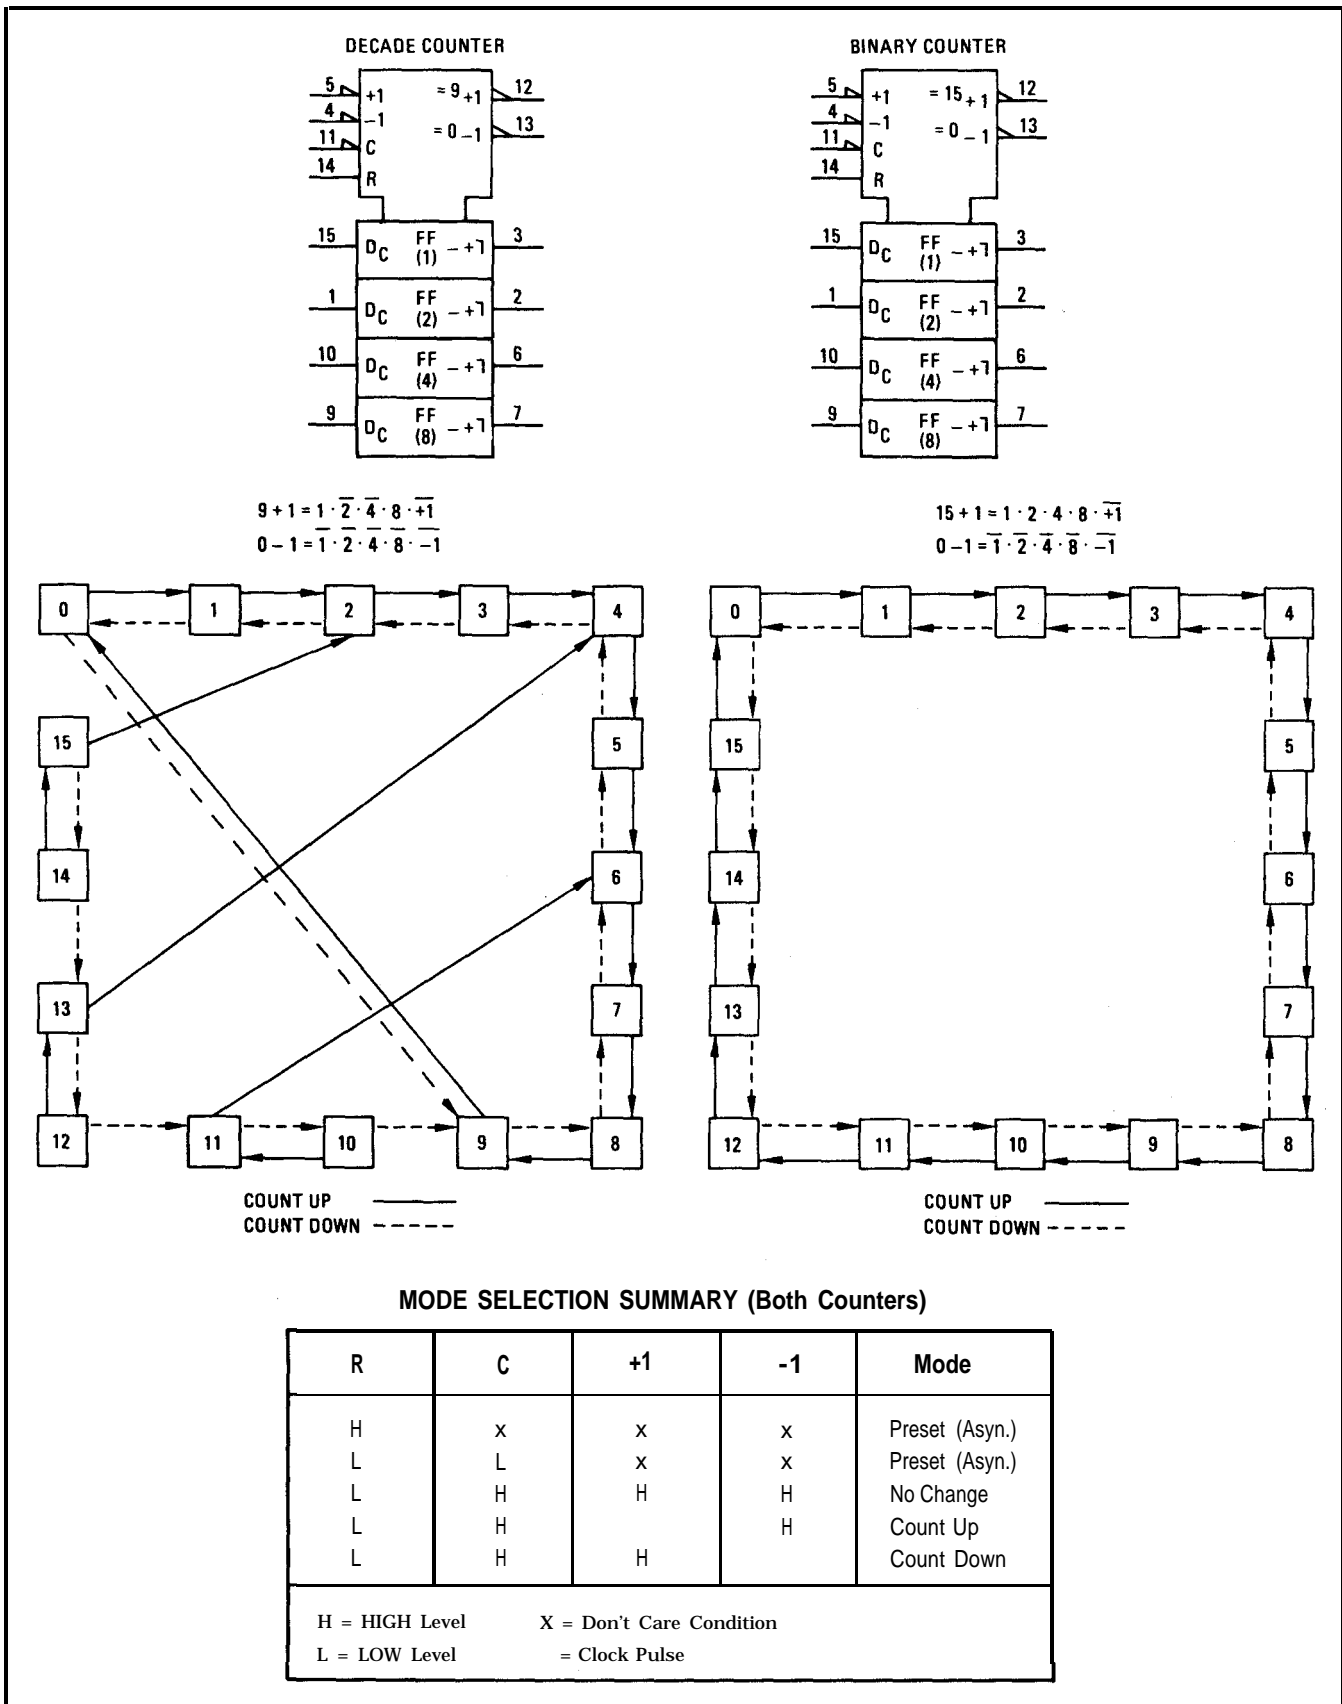

Figure 8-8. Programmable Counters
**8-40. Programmable Counters.** Programmable binary and decade counters used in the Power Meter are shown in Figure 8-8. The operating modes for both counters are identical. The only differences in operation are in the count sequences.
8-41. Operation of the counters is synchronous, with the outputs changing state after the high-to-low transition of either the Count-Up Clock (+1) or the Count-Down Clock (-1). The direction of counting is determined by which clock input is pulsed while the other clock is high. Incorrect counting will occur if both clock inputs are low simultaneously. Both counters will respond to a clock pulse on either input by changing to the next appropriate state of the count sequence. The state diagram for the decade counter (Figure 8-8) shows both the regular sequence and the sequence if a code greater than nine is present in the counter.